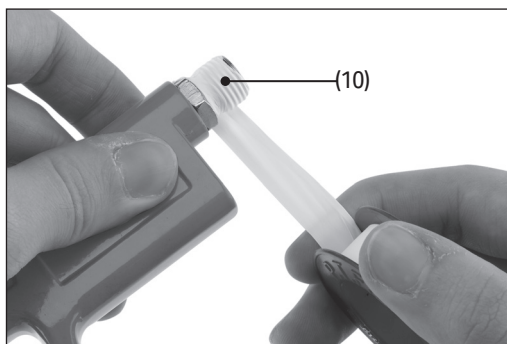

Fig. 8
3. Wrap a length of PTFE tape around the spray gun air line inlet (10) (Fig. 8).